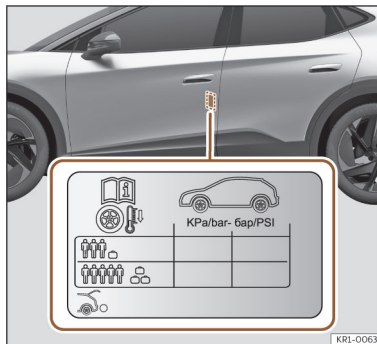

Fig. 201 Location of the tyre pressure sticker.
- Adjust tyre pressure to the load being carried by the vehicle >>> **Fig. 201**.
The tyre pressure values are shown on the sticker located on the rear frame of the front left door >>> Fig. 201.
The tyre pressure must be adjusted according to the load the vehicle is carrying. If the vehicle is going to be fully loaded, increase the tyre pressure to the maximum load value shown on the sticker >>> Fig. 201.
In the case of a minimised temporary spare wheel (125/70 R16 or 125/70 R18) inflate to a pressure of 4.2 bar as indicated on the tyre pressure label >>> Fig. 201.
- The driver is responsible for ensuring that all of the vehicle tyres are correctly inflated to the right pressure. The recommended tyre pressure is indicated on the label >>> Fig. 201.
- Tyre pressure should be as indicated on the label when the tyres are cold at all times >>> Fig. 201.